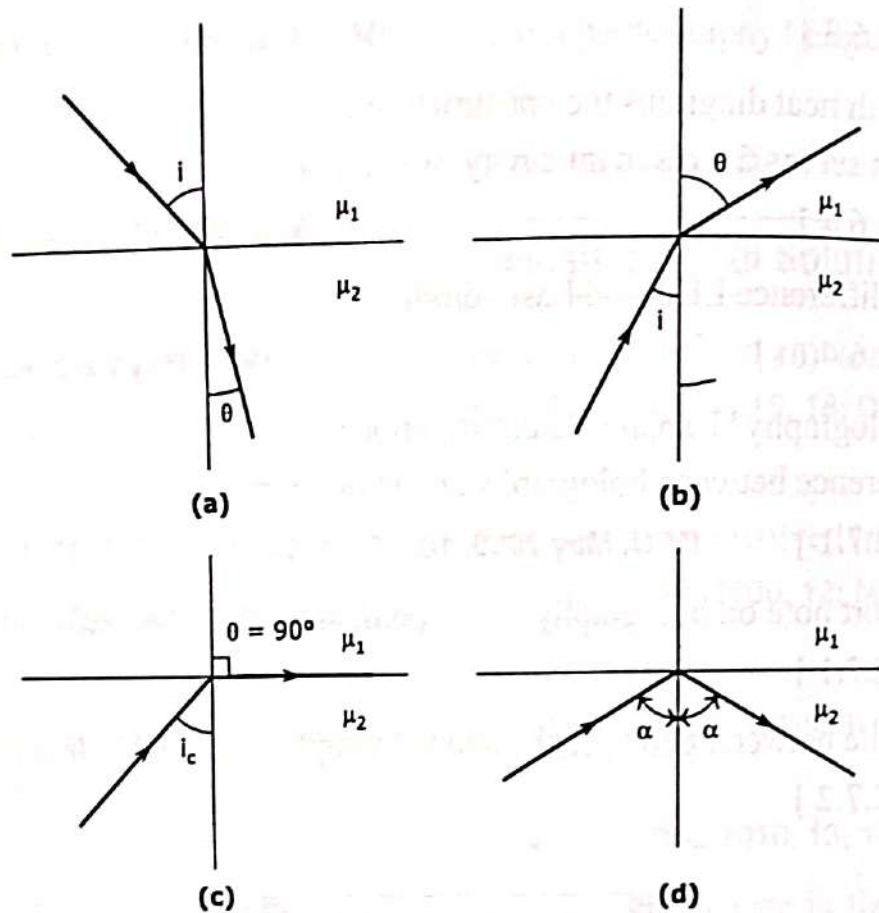

Fig. 2.19
- On the otherhand, if a ray of light falls on a denser surface after passing through a rarer medium, the refracted ray bends away from the normal on the interface [Fig. 2.19 (b)] In this case